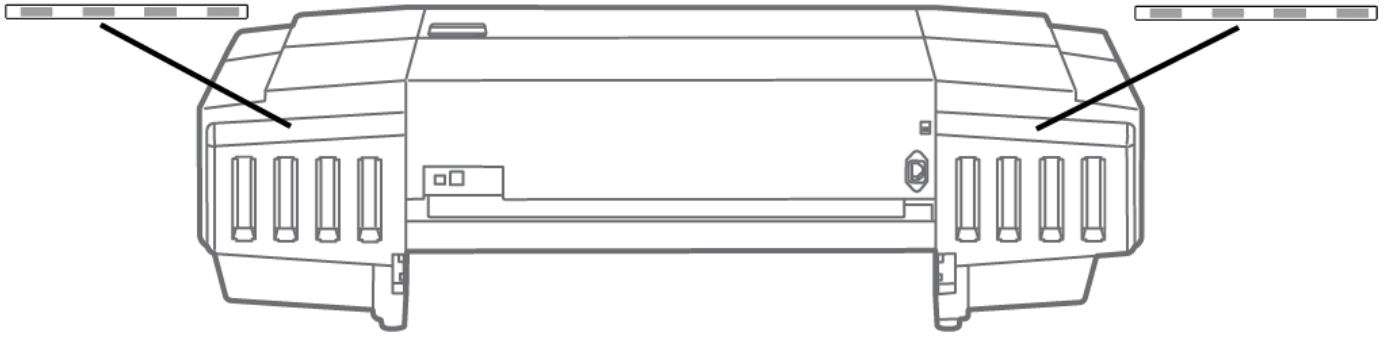

Figure 19
21. Apply the ink specific cartridge assignment stickers to the back of the printer over the cartridge slots. See figure 19.